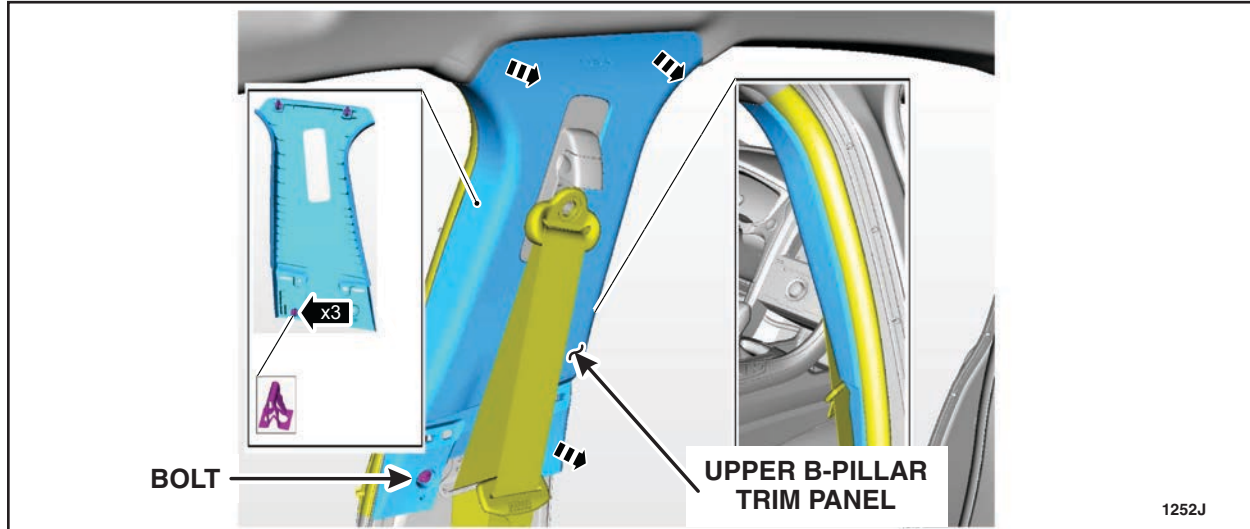

FIGURE 8
13. Remove the bolts and the RH and LH upper B-pillar trim panels. See Figure 8.